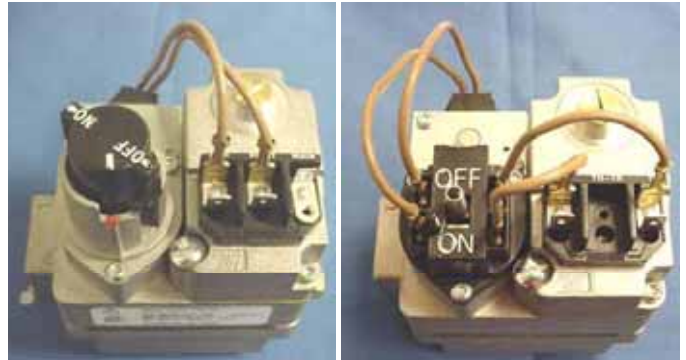

Figure 25: Typical Gas Valve
3. Turn gas valve knob or switch to "ON" position (See Figure 25).
4. Turn gas valve clockwise to "OFF" position (See Figure 25).